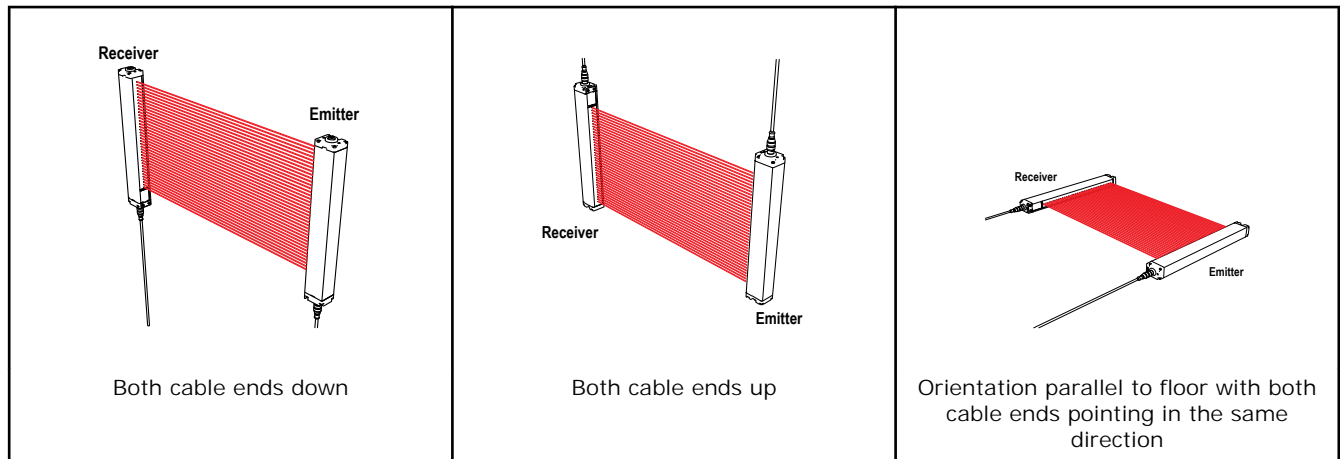

Figure 14. Examples of Correct Emitter/Receiver Orientation
1. From a common point of reference (ensuring the calculated minimum safety distance), measure to locate the emitter and receiver in the same plane, with their midpoints directly opposite each other. Important: The connector ends of both sensors must point in the same direction (see Figure 14 on page 27). Loosely mount the brackets to the desired surface, using the supplied M5 bolts and nuts, or user-supplied hardware. Brackets may face “in” or “out,” as desired.
3. Position the emitter and receiver in their brackets, as shown in Figure 14 on page 27. Loosely attach the front bracket plate to the bracket, at each end.
1. From a common point of reference (ensuring the calculated minimum safety distance), measure to locate the emitter and receiver in the same plane, with their midpoints directly opposite each other. Important: The connector ends of both sensors must point in the same direction (see Figure 14 on page 27). Mount the emitter and receiver mounting brackets to the desired surface, using the supplied M5 bolts and nuts or user-supplied hardware.